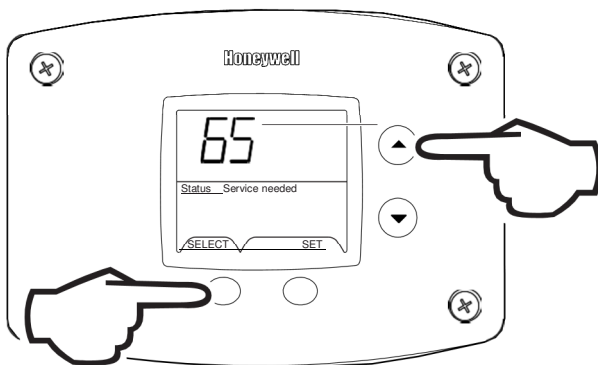

Fig. 60
1. Press for 6 seconds to enter service mode (Fig. 60).